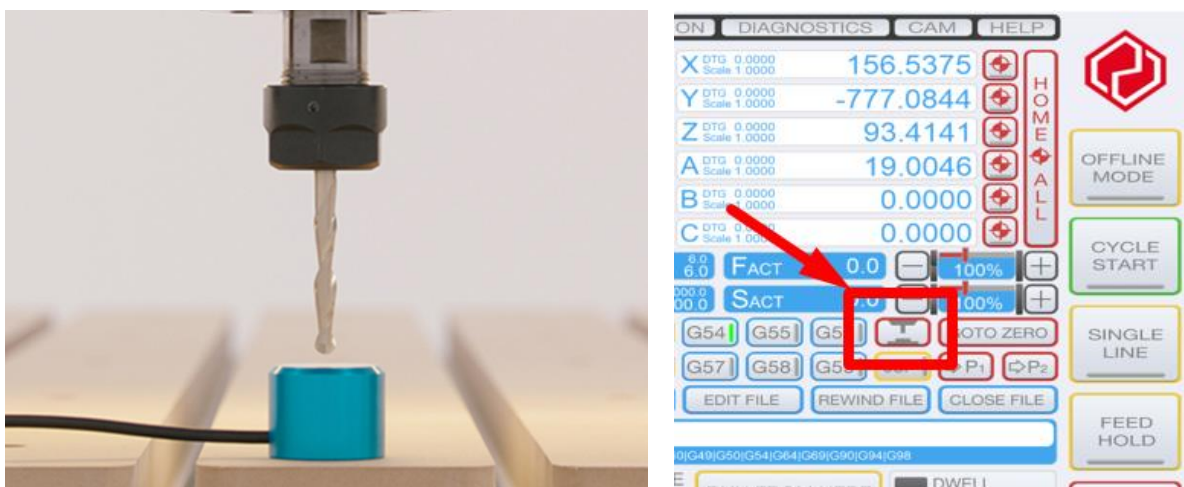

Figure 53: touch off system
To use your touch off sensor you can use the button on the UCCNC screen as shown in Figure 53. Press the button and the Z will drop to the sensor and set the Z height to the surface the sensor is sitting on
1. Touch off as normal – as shown in Figure 53